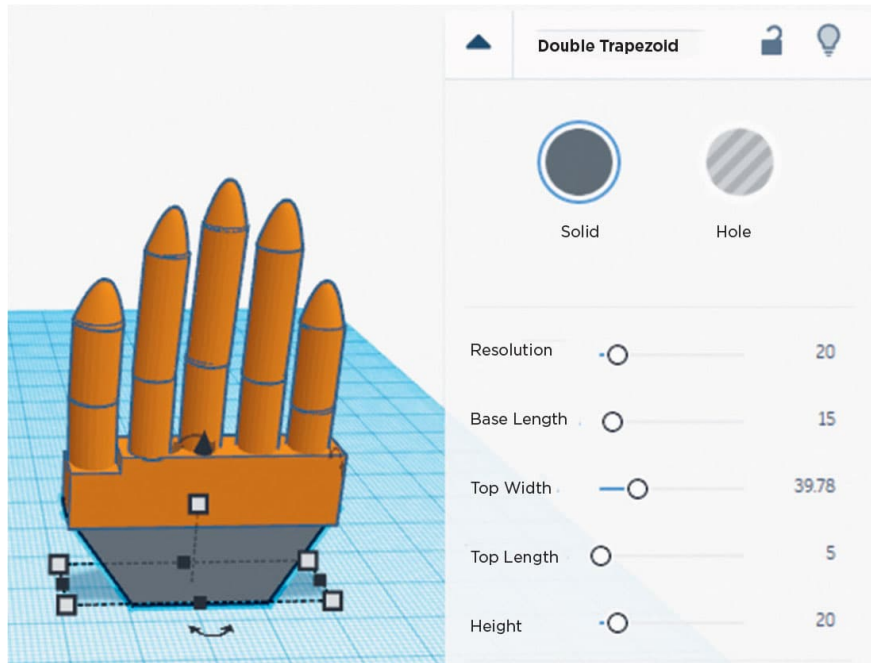

FIG. 4: Make a simple hand form with no joints.
6. The hand connects to the wrist using the wrist joint. The hand shown in fig. 4 is modeled after the hand in Lab 18 (shown here), but as a single piece without joints.